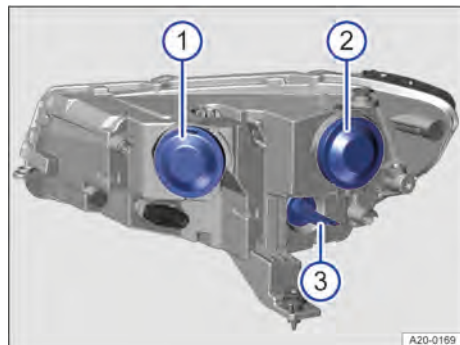

Fig. 172 In the bonnet space: covers on back of the right-hand headlamp.
1. Pull off rubber cover from back of headlamp → Fig. 172 ①.
5. Fit the rubber cover onto the rear of the headlamp → Fig. 172 ①.
1. Pull off rubber cover from back of headlamp → Fig. 172 ②.
4. Insert the bulb holder into the headlamp and press in the opposite direction to the arrow → Fig. 172 ②.
5. Fit the rubber cover onto the rear of the headlamp → Fig. 172 ②.